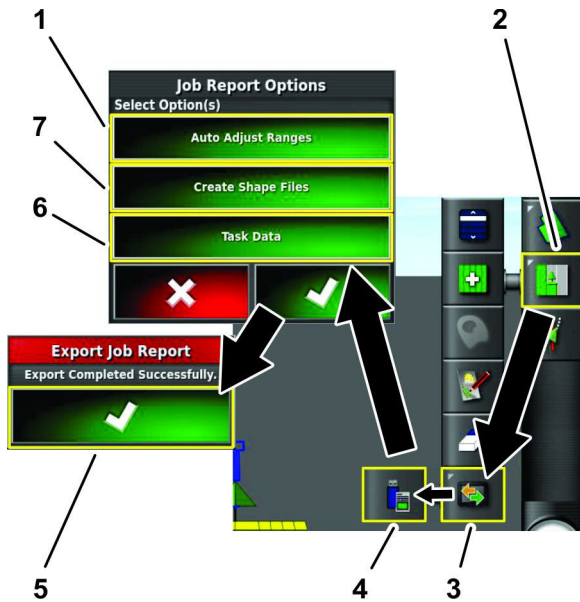

Figure 27
1. Press the Job Menu icon (Figure 27).
2. Press the Data Exchange Menu icon (Figure 27).
3. Press the Export Job Report to USB icon (Figure 27).
5. In the job reports options dialog box, press the confirm icon (Figure 27).
6. In the export job reports dialog box, the confirm icon (Figure 27).